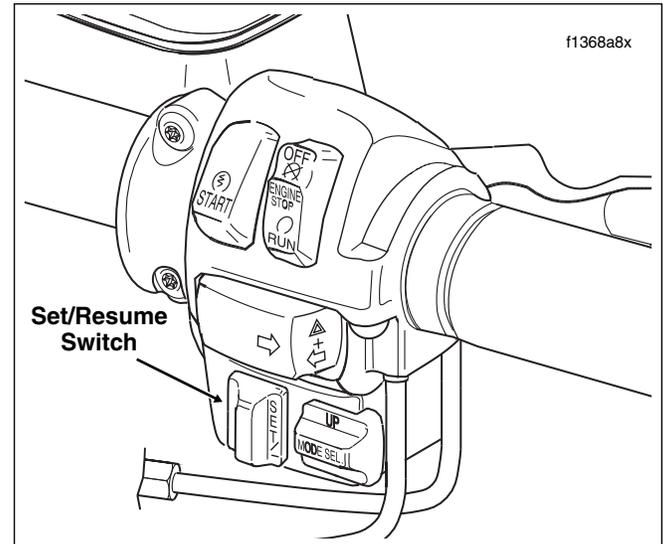

Figure 7-2. Right Handlebar Switch Assembly (FLTR, FLHTCU)
3. With the motorcycle traveling at the desired “cruise” speed (30 mph/48 km/h to 85 mph/137 km/h), momentarily push the Cruise SET/RESUME switch to SET. See Figure 7-2.